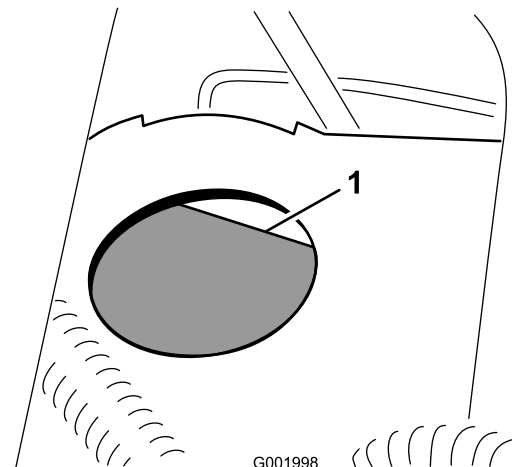

Figure 57
2. The fluid level should be up to the Full line on the reservoir (Figure 57).